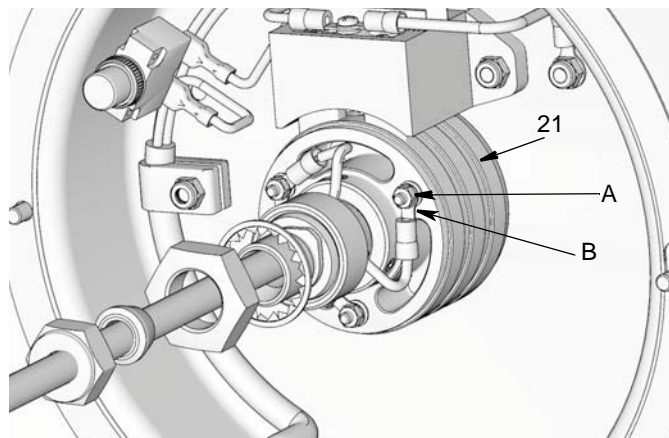

FIG. 19
5. Install three lock washers (B) and three 7 mm hex nuts (A). Tighten nuts to 10.2 in-lbs (1.15 N.m). (FIG. 19)